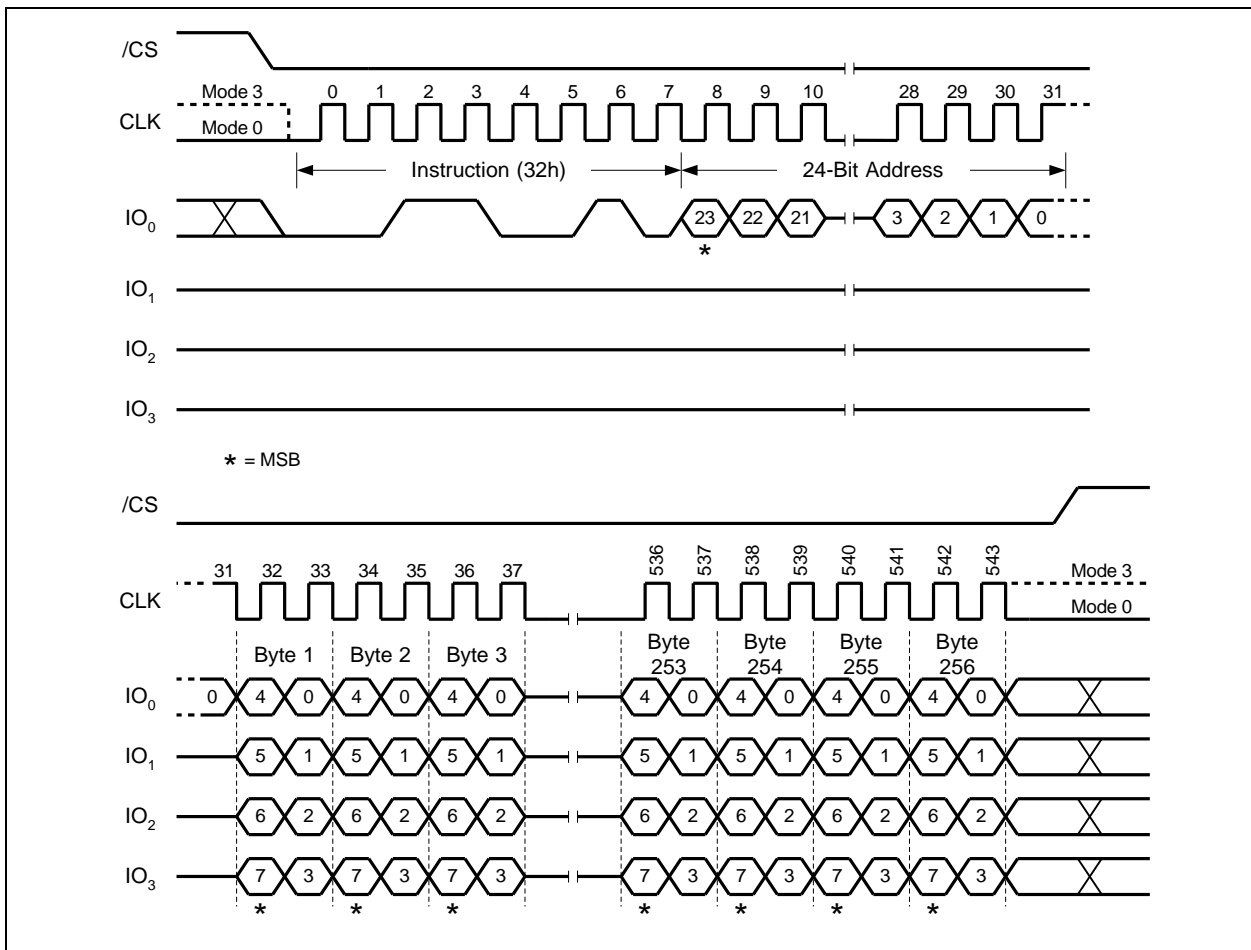

Figure 19. Quad Input Page Program Instruction
To use Quad Page Program the Quad Enable (QE) bit in Status Register-2 must be set to 1. A Write Enable instruction must be executed before the device will accept the Quad Page Program instruction (Status Register-1, WEL=1). The instruction is initiated by driving the /CS pin low then shifting the instruction code “32h” followed by a 24-bit address (A23-A0) and at least one data byte, into the IO pins. The /CS pin must be held low for the entire length of the instruction while data is being sent to the device. All other functions of Quad Page Program are identical to standard Page Program. The Quad Page Program instruction sequence is shown in Figure 19.